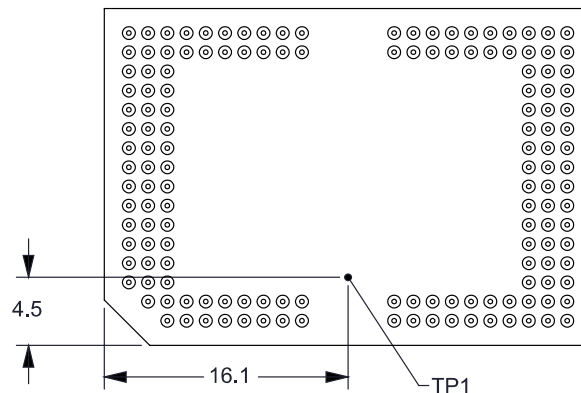

Figure 19. DMD Thermal Test Points
Relationship between array temperature and the reference ceramic temperature (thermocouple location TP1 in Figure 19) is provided by the following equations:
- $T_{\text{CERAMIC}}$  = measured ceramic temperature, TP1 location in Figure 19 (°C)
- $Q_{\text{ARRAY}}$  = total power, electrical plus absorbed, on the DMD array (W)
- $Q_{\text{ELECTRICAL}}$  = nominal electrical power dissipation by the DMD (W)
- $Q_{\text{INCIDENT}}$  = incident optical power to DMD (W)